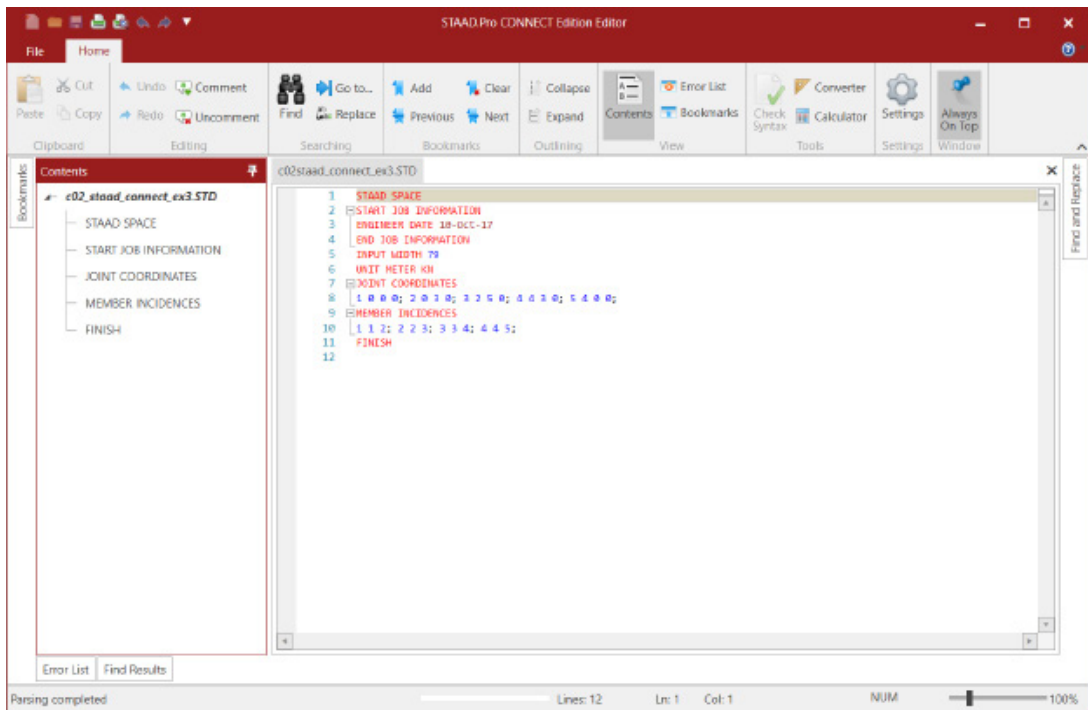

Figure 2-8 Commands for creating the members in the STAAD Editor window
Step 2: Choose the **Command File Editor** tool from the **Edit** panel of the **Utilities** tab; the **STAAD Editor Window** will open. Now specify the commands for creating the members, as shown in Figure 2-8.